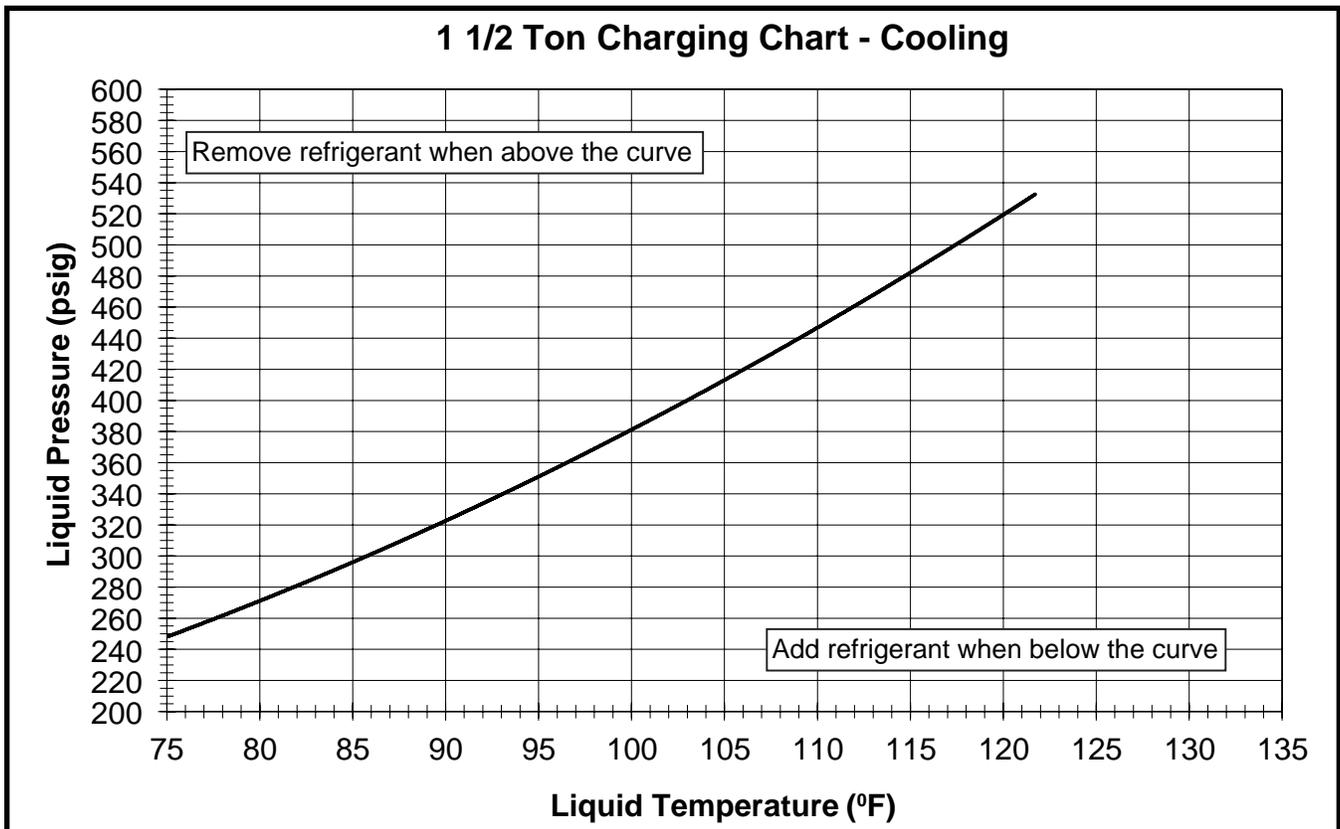

Figure 5. Charging Chart for 1.5 Ton Units (TXV Matches)
- Cooling mode charging charts are applicable only to matched assemblies of this equipment and listed airflows for the indoor coil. Refer to the Quick Reference Data sheet for additional charging information. Outdoor units with non-AHRI listed indoor coils are not recommended and deviations from rated airflows or non-listed combinations may require modification to the expansion device and refrigerant charging procedures for proper and efficient system operation. Refer to Figures 5 - 11 (pages 10 - 13) and Tables 5 - 11 (pages 14 - 17) for correct system charging.
3. Determine the required liquid refrigerant pressure from Figures 5 - 11 (pages 10 - 13).
- Charging charts are valid for a variety of indoor, return air conditions and are most influenced by the outdoor ambient temperature, outdoor fan operation and the unit operating voltage. Before using these charts, make sure the unit is in a stable operating mode. As shown in the charging charts (Figures 5 - 11, pages 10 - 13), the ideal system sub-cooling can vary over the range of operation. Reference the charts to determine the ideal amount of sub-cooling for a given liquid pressure. Units charged to other values will not perform at the rated unit efficiency (EER) or rated Coefficient of Performance (COP) in heating mode.